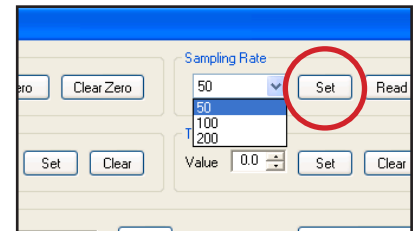

Figure 21: Select Sampling Rate
4. To change the sampling rate, click the drop down menu arrow as seen in Figure 21: